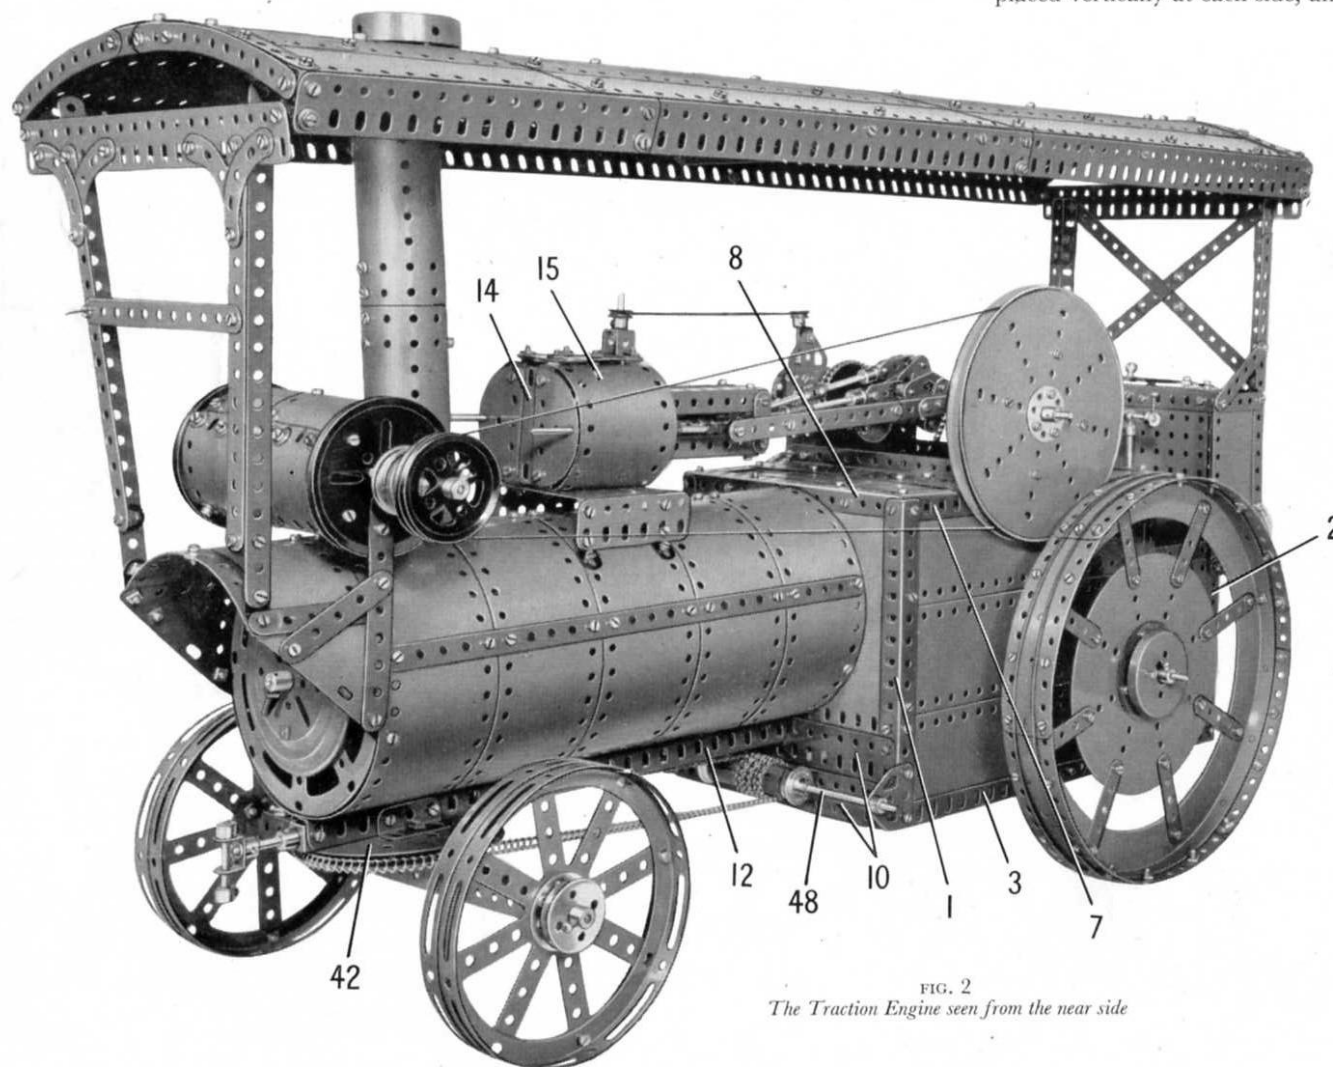

FIG. 2
The sides are connected together at the front by a $7\frac{1}{2}$ " Angle Girder (8) (Fig. 6), and a similar Girder (9) (Fig. 4). The front is partly filled in by a $5\frac{1}{2}$ " \times $2\frac{1}{2}$ " Flexible Plate placed vertically at each side, and by two $7\frac{1}{2}$ " Flat Girders (10) (Fig. 2).
The boiler is built up on two $12\frac{1}{2}$ " Angle Girders bolted together to form a channel section girder (12). The boiler consists of five built-up plates, each made from a $12\frac{1}{2}$ " \times $2\frac{1}{2}$ " Strip Plate and a $5\frac{1}{2}$ " \times $2\frac{1}{2}$ " Flexible Plate bolted end to end and curved to shape. A $12\frac{1}{2}$ " Angle Girder is fixed inside the boiler diametrically opposite to the girder (12) and two $12\frac{1}{2}$ " Strips are bolted along the sides. The front and rear ends of the boiler are Hub Discs, but before the front is fixed in place the rear Hub Disc should be bolted to the Girders (8) and (9) of the body (Figs. 2 and 4). At the front the Flanged Disc of a Ball Thrust Bearing is bolted to the Hub Disc, and a Threaded Pin is fixed in a Threaded Boss that is mounted on a $\frac{1}{2}$ " Bolt.
The Cylinder Unit (Figs. 2 and 3)
The front end of the cylinder block is made from a $2\frac{1}{2}" \times 1\frac{1}{2}"$ Flexible Plate (14) (Fig. 2) fitted along its longer edges with Semi-Circular Plates, and the rear end is formed by two Semi-Circular Plates. The ends are joined together by four $2\frac{1}{2}" \times \frac{1}{2}"$ Double Angle Strips, and a $4\frac{1}{2}" \times 2\frac{1}{2}"$ Flexible Plate (15) is curved to shape and bolted to the Double Angle Strips on each side. The lower pair of Double Angle Strips is bolted to the Flanged Plate (13). The top edges of the Plates (15) are connected to the Double Angle Strips by $\frac{3}{8}"$ Bolts placed with their shanks pointing upward. The top of the cylinder block is a $2\frac{1}{2}" \times 1\frac{1}{2}"$ Flexible Plate edged by $2\frac{1}{2}"$ and $1\frac{1}{2}"$ Strips, and is held on the shanks of these Bolts by further nuts. A Double Bent Strip is fixed to the rear end of the $2\frac{1}{2}" \times 1\frac{1}{2}"$ Flexible Plate and supports a 2" Rod that forms the governor shaft. The Rod is held in place by a Collar and a $\frac{1}{2}"$ fixed Pulley.
The Rear Wheels (Figs. 2 and 4)
The Front Axle and Steering Assembly (Figs. 2, 4 and 8)
The complete axle is attached to the Toothed Disc of a Ball Thrust Bearing by bolts that secure also a Double Arm Crank. A $2\frac{1}{2}$ " Rod fixed in the Double Arm Crank is passed through a Bush Wheel and a 4" Circular Plate (42) (Fig. 2), which is bolted to $1\frac{1}{2}$ " Angle Girders fixed to the girder (12). The $2\frac{1}{2}$ " Rod passes inside the boiler and is held in place by a Collar.